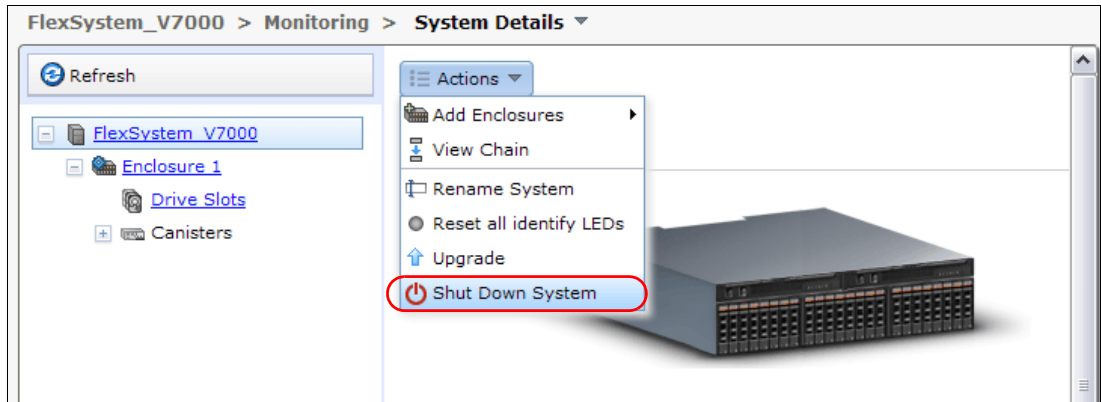

Figure 13-54 Shutting down the system from IBM Flex System V7000 GUI
2. Use the Flex System V7000 Storage Node management GUI to shut down the system, as shown in Figure 13-54.